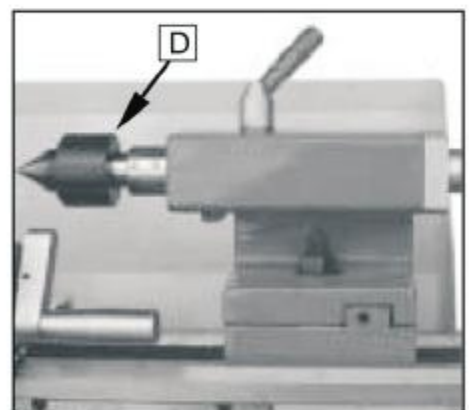

Fig. 29
5. Unscrew the nut (D, Fig.29) from the leadscrew or the nuts (E, Fig.19) from the quadrant bolts in order to remove the change gears from the front.
The live center is mounted in ball bearings. Its use is highly recommended for turning at speeds in excess of 600 RPM. (Fig.29)